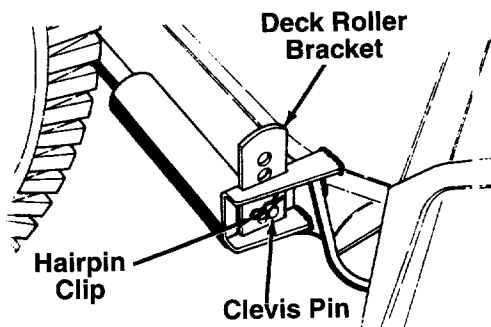

FIGURE 8.
16. **Models 14AW844P and 14AY844P:** Remove the clevis pins and hairpin clips from the roller assembly. Slide the roller assembly between the rear wheels and the deck. Insert the deck roller brackets up through the brackets provided on the rear of the deck. It may be necessary to rotate the deck roller brackets 360° to clear the roll pin stop. Attach with clevis pins and hairpin clips just removed, using the lowest hole location on each side of the deck. See figure 8.